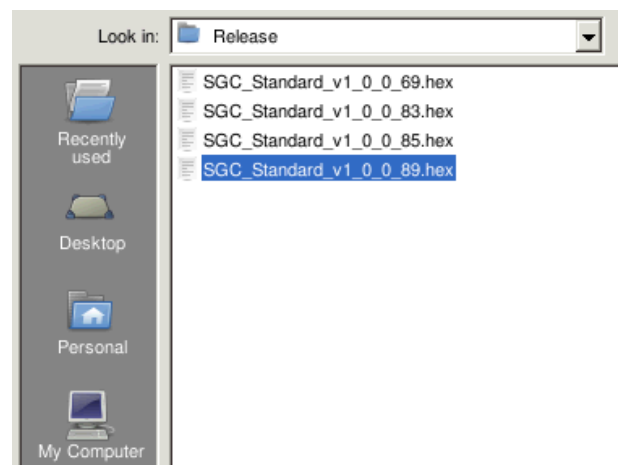

Figure 8 CANTool - .Hex file.
13. Go to the correct folder on the USB drive and choose the correct *SGC.hex* file (Figure 8).